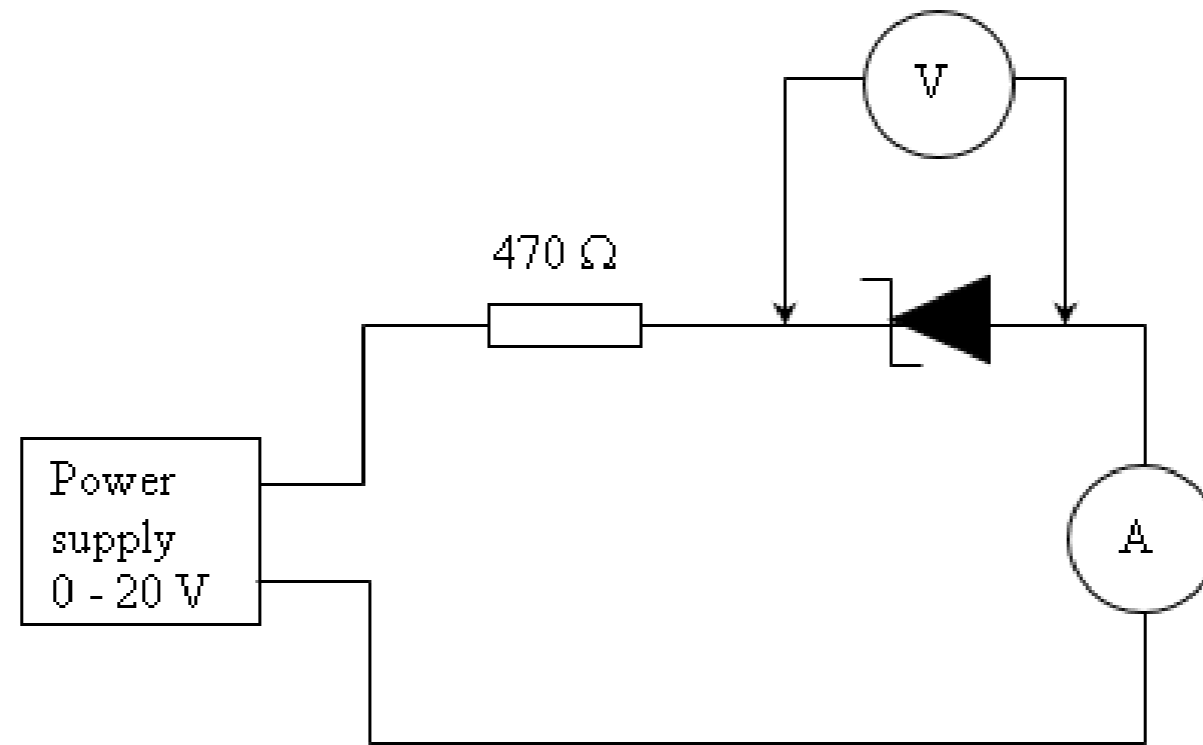

Fig. 5: Zener diode measurement circuit
- Set up the circuit of Fig. 5.
- a. For the circuit of Fig.5, measure the change in V_z when the voltage supply is changed from +12 to +14 V.